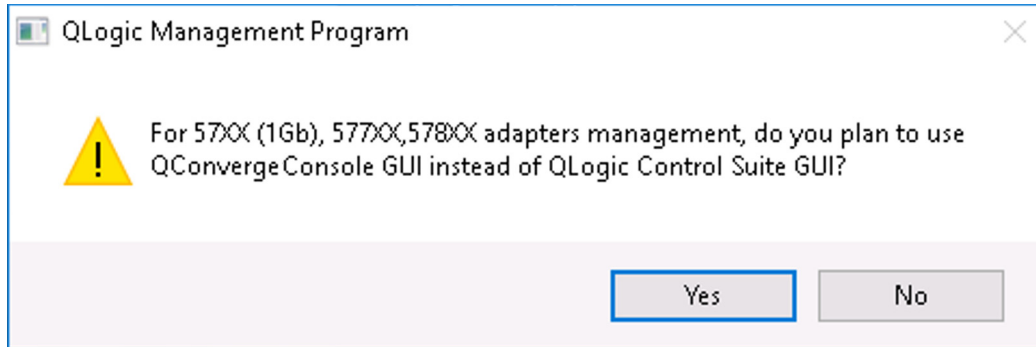

Figure 9-1. InstallShield Wizard Prompt for Management Utility
3. At the InstallShield Wizard prompt (Figure 9-1), select the adapter management utility that you want to use: